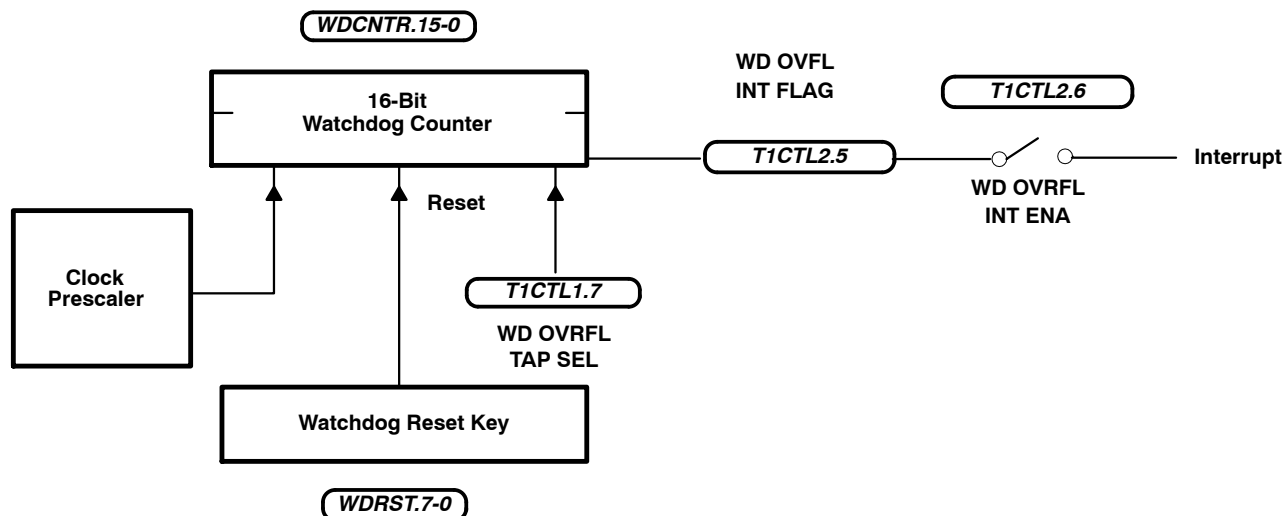

Figure 11. Simple Counter
- Simple counter configuration – for mask-ROM devices only (see Figure 11)